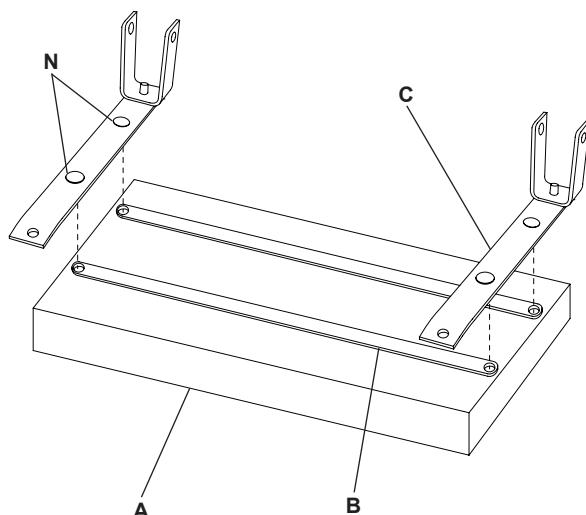

Figure 1 - Seat Cushion Assy.
- With the Seat Cushion (A) facing down, align the holes of the Crossbars (B) with the seat. Then align the holes of the Seat Supports Bars (C) and attach with four M6 x 16 Phillips Head Screws. (N) (Fig. 1).